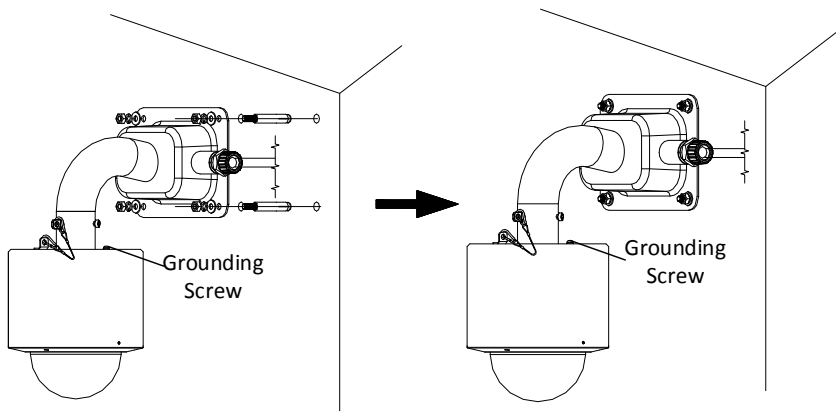

Figure 2-8 Mount the Bracket and Device
3. Fix the mounting bracket onto the wall by inserting the four expansion screws. Insert the flat washer and the spring washer. Then tighten the four screws to secure the installation plate as shown in Figure 2-8.